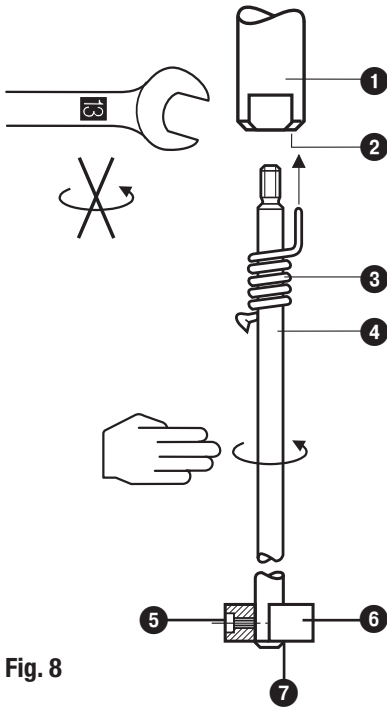

Fig. 8
1. Screw electrode tip ④ into measuring electrode ①. **Fig. 8**
3. Mark length of electrode tip ④.
4. Unscrew electrode tip ④ from measuring electrode ① and cut tip.
5. After visual inspection screw electrode tip ④ into measuring electrode ①. Slide spring ③ along electrode tip 4 so that its end completely enters the small hole ②.
6. Mounting the measuring surface extension: Fit disk ⑥ to electrode tip, making sure that the electrode tip protrudes 2 mm beyond the bottom of the surface extension disk. Fix the disk in this position with the set screw ⑤. Push supplied lock washer ⑦ from below over electrode tip and against surface extension disk ⑥.